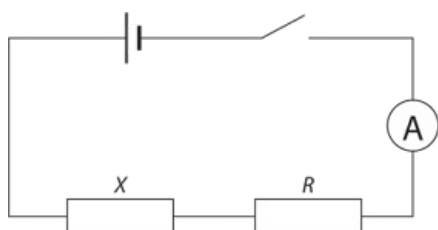

Figure 6.3: Circuit diagram.
- 1 Set up the circuit shown in Figure 6.3. Both resistors X and R should have values of resistance equal to $15\ \Omega$. The multimeter should be set in the range 0–200 mA.